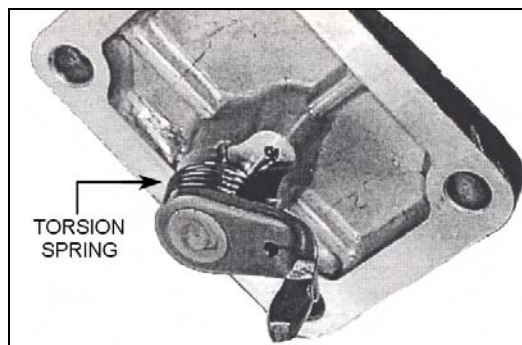

Figure 2. Remove and Discard Torsion Spring
4. Discard the torsion spring from injector pump cover (**Figure 2**).